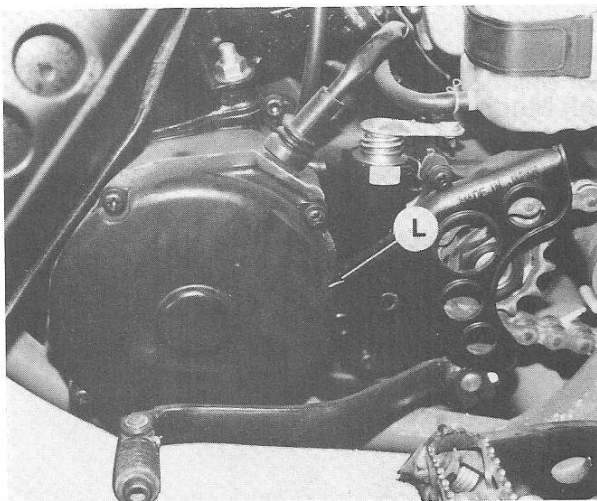
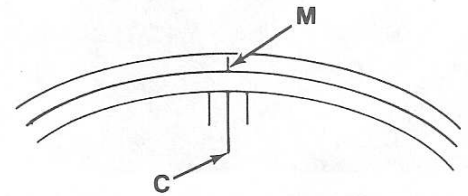

Fig. Y10-15—Remove left crankcase cover (L) to expose flywheel, ignition components and lighting coil.
Fig. Y10-16—Center (C) flywheel timing mark must align with stationary mark (M) on stator plate when piston is positioned as specified in text.
To check ignition timing, remove spark plug and left crankcase cover (L—Fig. Y10-15). Insert a suitable dial indicator gage into spark plug hole. When the piston is 1.56-1.76 mm (0.066-0.074 in.) before top dead center (BTDC) on Model YTZ250N and 1.17-1.37 mm (0.046-0.054 in.) BTDC on Model YTZ250S, center (C—Fig. Y10-16) flywheel timing mark must align with stationary mark (M) on stator plate. If not, reach through the openings in the front of the flywheel with a suitable tool and loosen the two stator plate retaining screws. Rotate stator plate until marks are aligned, then tighten screws to retain setting.